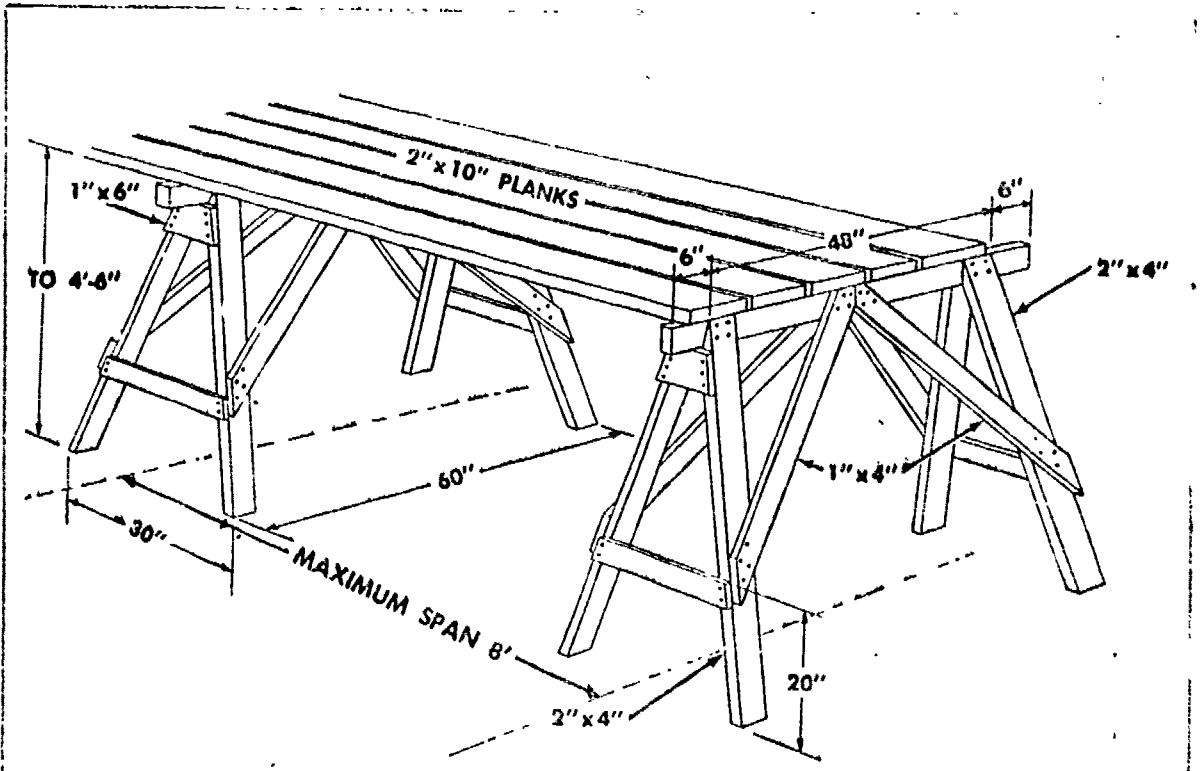

Figure 173. Trestle scaffold.
a. Trestle Scaffold. When construction is such that the brick can be laid from the inside of the wall, a trestle scaffold as shown in figure 173 may be used. The trestles should be from 4 feet to 4 feet 6 inches high. The scaffold planks rest on the trestles and should be 2 by 10's. After the wall has been built to a height of 4 or 5 feet, the trestle scaffold should be erected. The wall can then be completed to the next floor level while the bricklayer works from the scaffold. As soon as the rough flooring for the next floor is in place, the above procedure is repeated. The trestle should remain at least 3 inches from the wall in order to make sure it will not push against the newly laid brick and force them out of line.